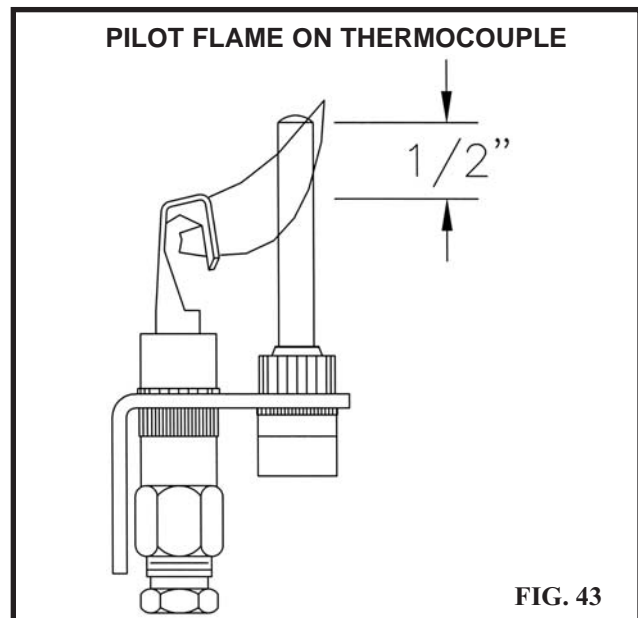

FIG. 43
9. Pilot Flame Adjustment Procedure - The pilot flame should envelop $3/8"$ to $1/2"$ (10 to 13mm) of the tip of the thermocouple, see Figure 43.